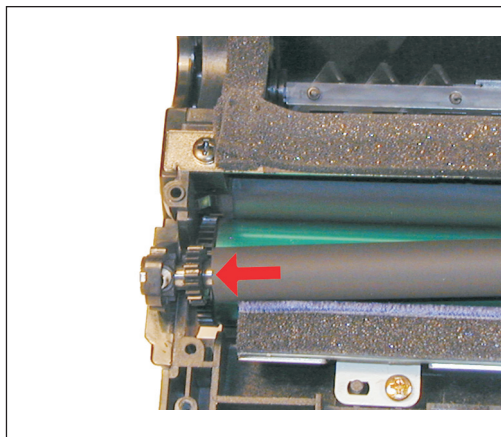

Figure 24
21) Install the PCR. See Figure 24